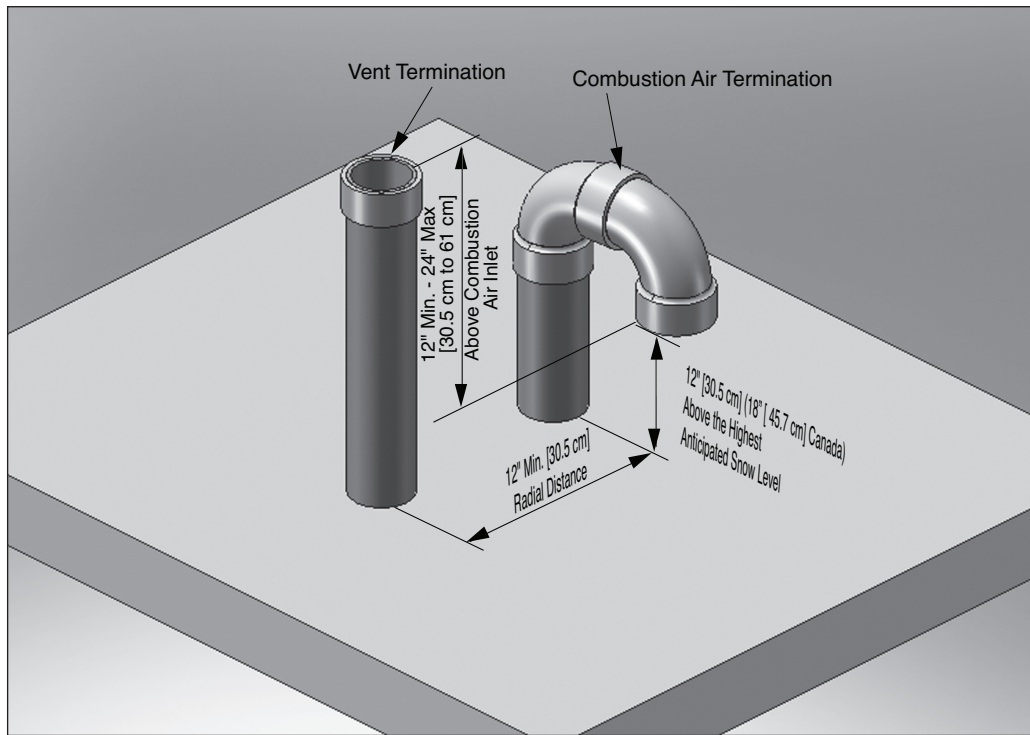

Fig. 1 - Direct Vent - Vertical Termination of Vent and Combustion Air Piping.
2. The combustion air piping must terminate in an upside down "U" shape fashion using two 90° elbows, as shown in *Fig. 1 on page 12*. The termination must be located 12 in. [30.5 cm] (18 in. [46 cm] Canada) above the highest anticipated snow level.
3. The vent piping must terminate vertically with a coupling to accept the bird screen and must be located 12 in. to 24 in. [30.5 cm to 61 cm] above the combustion air inlet as shown in *Fig. 1 on page 12*.
4. The vent and combustion air terminations must be located at a radial distance of 12 in. to 24 in. [30.5 cm to 61 cm] from centerline of vent termination to centerline of air termination as shown in *Fig. 1 on page 12*.
3. Locate the vent and combustion air pipe penetrations to provide clearances as described in *Fig. 1 on page 12*.
2. The combustion air piping must terminate in an upside down "U" shape fashion using two 90° elbows as shown in *Fig. 1 on page 12*.
3. The vent piping must terminate vertically with a coupling as shown in *Fig. 1 on page 12*.
Do not extend the vent pipe above the roof beyond the dimensions shown in *Fig. 1 on page 12*. Extended exposure of the vent pipe could cause condensate to freeze and block the vent pipe, resulting in substantial property damage, serious injury, or death